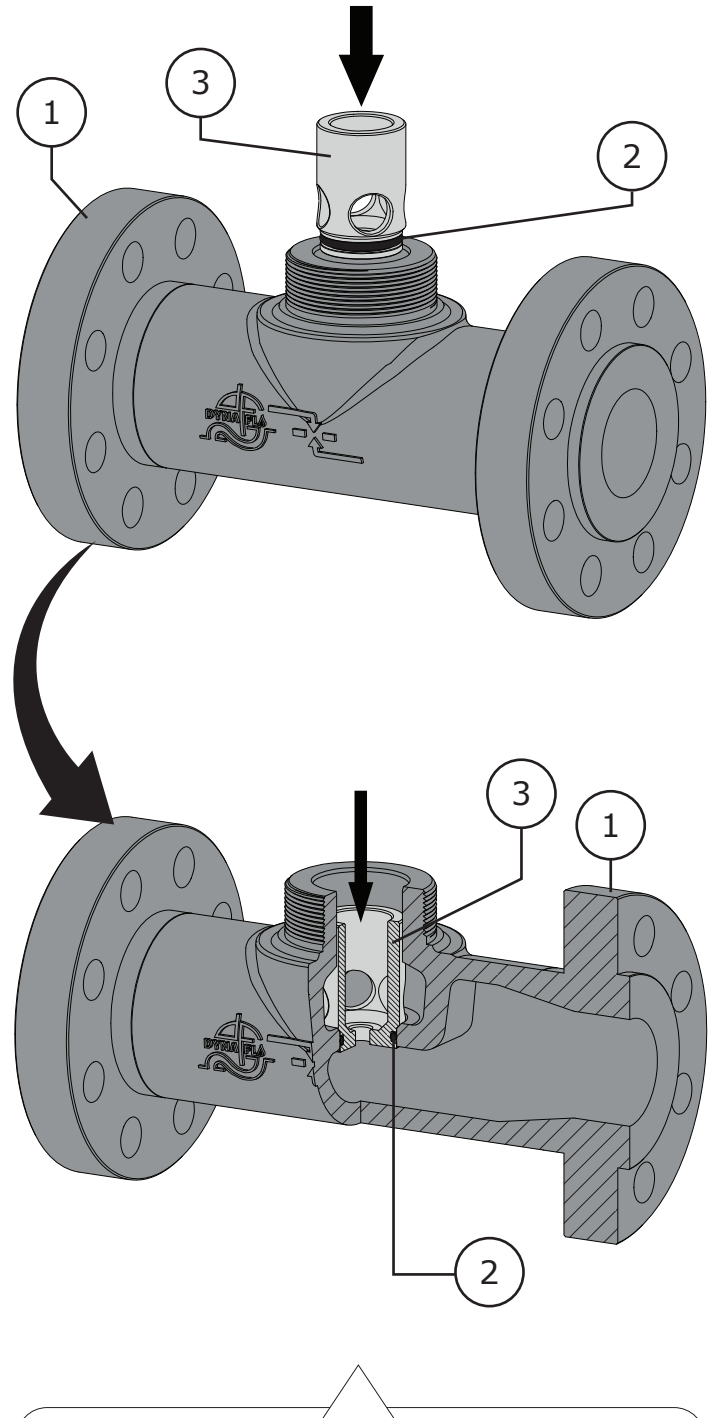

Figure 30 One-Piece Cage/Seat Ring Installation
- 2 Apply Dow Corning Molykote® 111 (Key B) to the seat ring o-ring (Key 2) and install it into the o-ring groove on the cage/seat ring (Key 3). Refer to Figure 30.
- 3 Install the cage/seat ring (Key 3) into the valve body (Key 1) and push down on the cage to assure the assembly is properly seated in the valve bore. Refer to Figure 30.